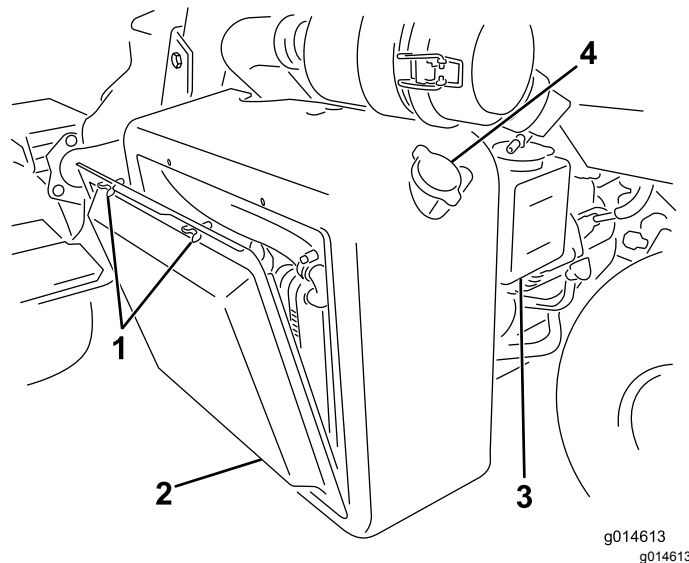
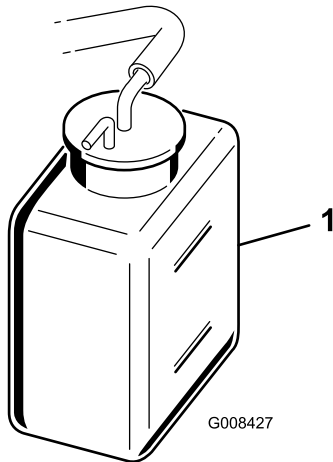

Figure 43
Figure 44
1. Remove the radiator screen (Figure 43).
2. Check the coolant level (Figure 43 and Figure 44).